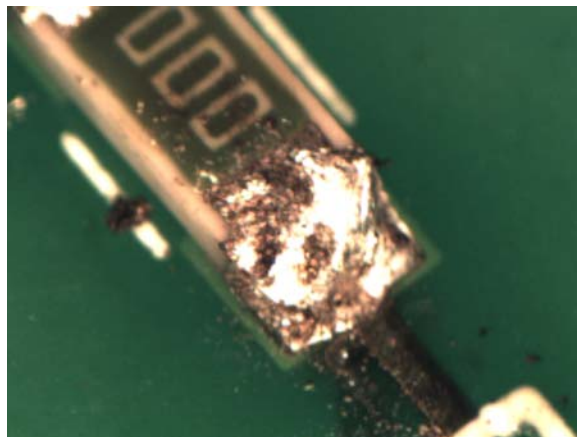

Figure 3 – Overheating & Contamination
- **Overheating:** Leaving the iron in contact for too much time or having too high an iron temperature can damage components and circuit boards. The burns are the easy to see defect. Less easy to detect are cracked components that can easily make it to the field before making their presence known. Component cracking is caused by thermally induced expansion mismatch (Figure 3).
- **Contamination:** High iron temperatures and inadequate iron maintenance can leave behind burned flux and oxidized solder. Conversion to lead free solders typically requires higher iron temperatures that aggravate flux burning. Burned flux residue can contaminate joints, causing voids and interfere with wetting by covering surfaces that should be soldered (Figure 3).